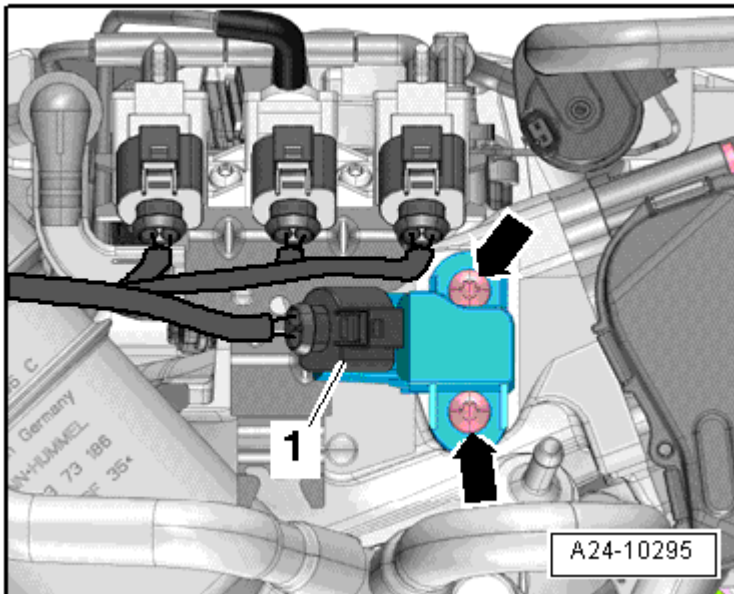

Fig. 11: Identifying Connector -1- & Intake Air Temperature Sensor/Manifold Absolute Pressure Sensor Bolts
- Component location, refer to **Fig. 11**